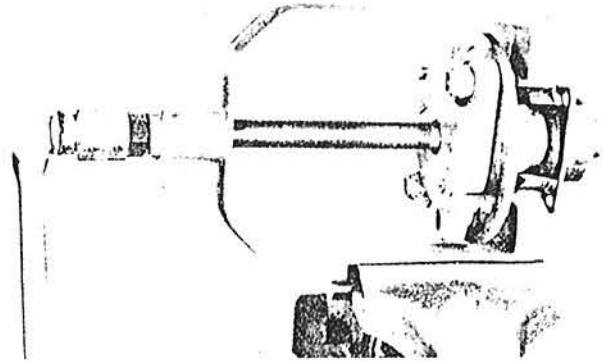

Fig. 8.9 Using the special Ford tool to remove the axle shaft bearing (Sec 5)
Note: A special tool is required to remove the bearing from the axle shaft (see Fig 8.9).
- 4 Press the bearing off the shaft using a suitable puller or press. The special Ford tool is shown in Fig. 8.9.